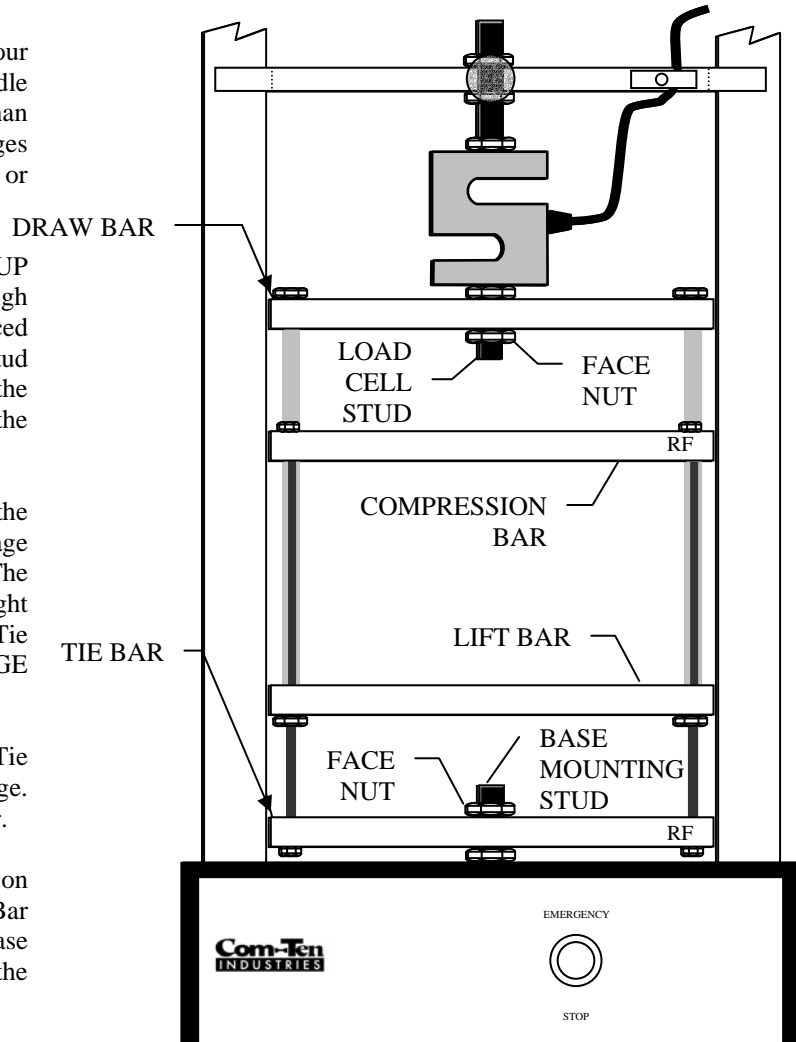

Figure 4.8 – CAGE INSTALLATION
2. Set the Compression Cage beside the Tester in a vertical position with Cage weight rating facing operator. The letters "RF" should appear on the right side of the Compression Bar and Tie Down Bar. Refer to Figure 4.8 – CAGE INSTALLATION below.